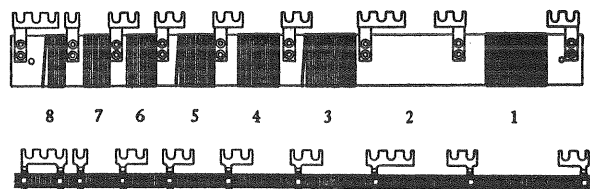

Fig. 3—A. C. Strip
- d. Open in section 8 of resistance strip. (See Fig. 3.)
- a. Open in section 7 of resistance strip. (See Fig. 3.)
21. Resistance Strip Values—Fig. 3, illustrates the two types of filament resistance strips mounted on the catacombs of the A. C. operated models. On recent production section No. 2 of this strip has